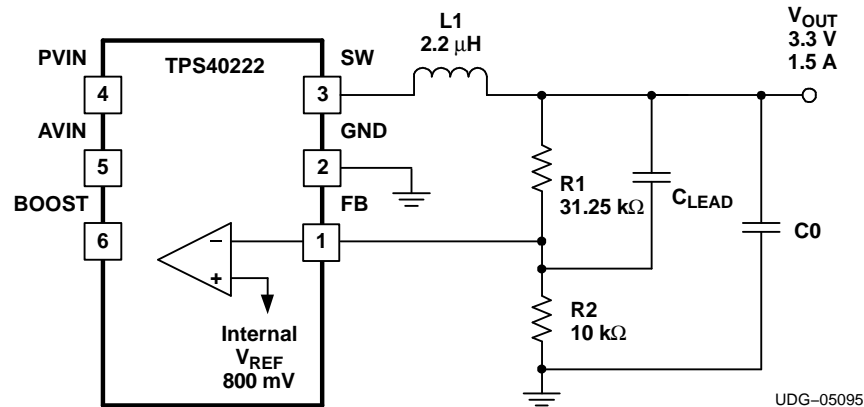

Figure 10. Output Stage
Since the loop compensation is internally fixed and cannot be changed, loop stability can only be controlled by the proper choice of output inductance and capacitance. Table 2 provides a shortcut guide to this selection and recommended capacitance to maintain a safe 50 degrees of phase margin for various inductors and output voltages. The table also shows the minimum capacitance for 50 degrees of phase margin at three temperatures, with the worst case for stability at -40°C. The granularity of the table is sufficient so the user can interpolate between values to find a specific operating condition. The table values assume a full load, which is also the worst case for phase compensation. As an example of using the table, consider a 2.5-V output converter with a 2.2-μH inductor. The table shows that a minimum of 15-μF of output capacitance is required to guarantee greater than 50 degree of phase margin at the worst case temperature of -40°C. With a lead capacitor (C_{LEAD}) added to the feedback as shown in Figure 10, this minimum capacitance increases to 26-μF and the closed-loop frequency increases by about 20%.
(1) See Figure 10.
(2) For $V_{OUT} > 3.3\text{ V}$ use an inductor with a value greater than or equal to $2.2\text{ }\mu\text{H}$.
In most applications, the user starts with a known output voltage and current load requirement as shown in Figure 10.
As shown in Figure 10, the trimmed reference voltage is internally connected to the error amplifier. Since the input bias current to this error amplifier is negligible. The feedback resistors R1 and R2 can be selected over a broad range limited by the low bias current into the error amplifier. With this restriction in mind, R2 was selected at 10 kΩ, so its current is 80 μA and large relative to the bias current of the error amplifier. The output voltage is then given by Equation 4.